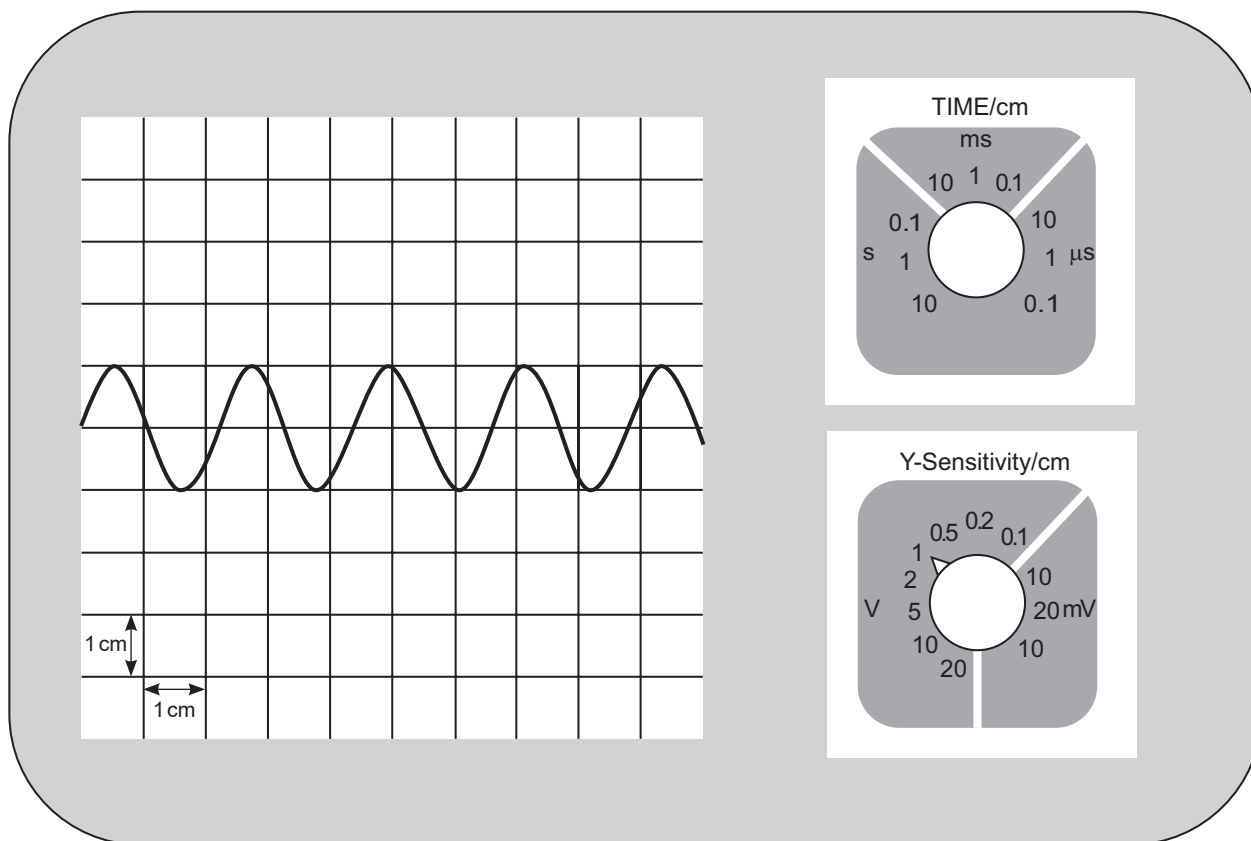

Fig. 2.1
- (ii) Fig. 2.1 shows the trace on the screen of the cathode ray oscilloscope immediately after the tuning fork has been struck. Which of the time-base settings shown on Fig. 2.1 must the student be using?